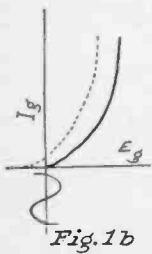

Fig. 1b
- Fig. 1b. Characteristic curve of two-electrode tube, showing grid current against the grid voltage.
The operation of this device depends on the stoppage of the flow of grid current. A high mu tube is desirable because for a given positive grid bias the grid current is greater the higher the mu is. Hence the device is more sensitive for higher values of mu. The grid current in the tube may be represented by a curve such as the dotted line in Fig. 1b.
It will be noted that the grid current does not become zero as soon as the grid voltage becomes zero, but that a small negative value is necessary to stop it. This is unfortunate, since it would require a reversing switch in the leads to the voltmeter V if there were no other method of stopping the grid current when the grid voltage is zero. By connecting the plate of the tube to the positive end of the filament the grid current curve takes the shape of the full line in Fig. 1b, which passes through the zero point when the grid voltage is zero. This gives a definite starting point and it obviates introducing a reversing switch in the voltmeter leads.